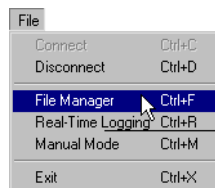

Figure 4-3. File->File Manager
4. Click **File->File Manager** (Figure 4-3).
4. Click **File->File Manager** (See Figure 4-3 on page 4-9.)